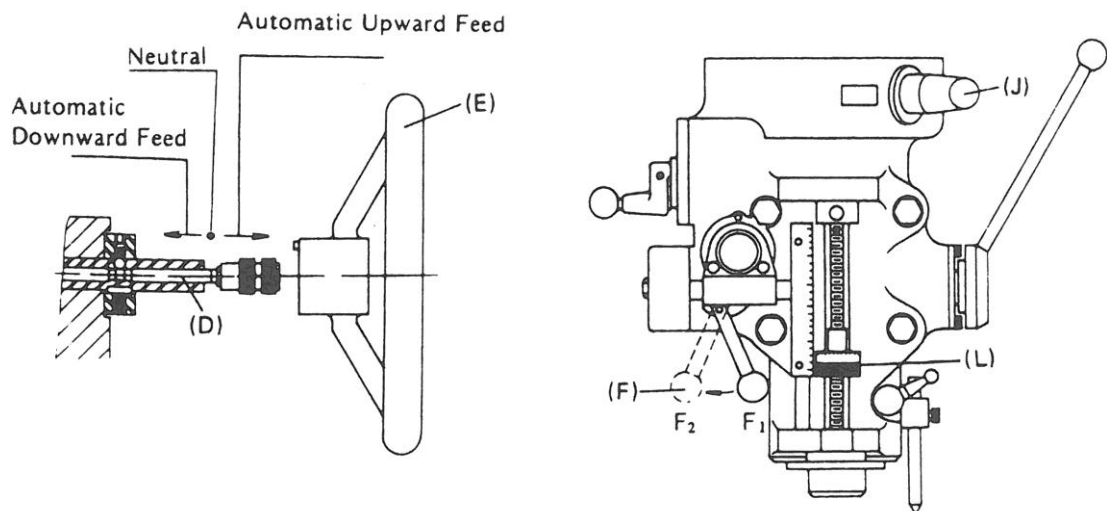

Figure 11
Note: in manual feed, the feed control handle "F" (Fig. 11) must be in the "F1" position.
To use the manual micro-feed, the power-feed transmission lever (J) (Fig. 11) must be placed at the "OUT" position, and the feed reverse knob (D) (Fig. 11) must be in the neutral position. To engage the overload clutch, lever "F" (Fig. 11) must be moved to the "F2" (Fig. 11). You can now turn handwheel "E" clockwise to lower the spindle, counter clockwise to raise it.
- e. The quill will move down when pressing knob “D” (Fig. 11) in, and pulling it out, the quill will go up (The middle is neutral).